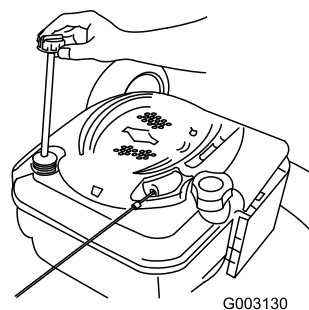

Figure 36
2. Retirez la jauge (Figure 36).